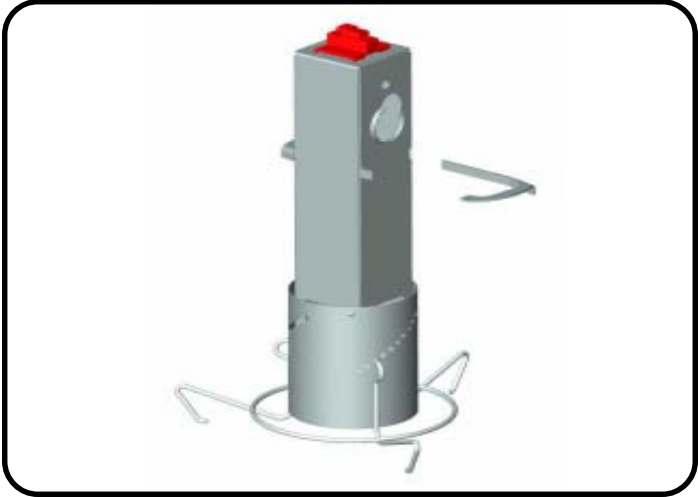

Figure 3
3. Insert two (2) shield supports into the slots on the drop tube weldment assembly. Slide drop tube into the feed level ring assembly as shown in Figure 3.